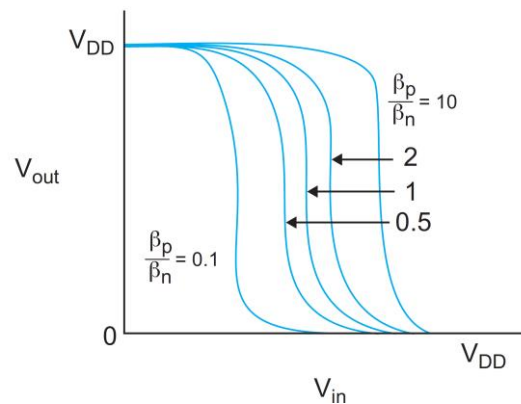

Figure 13: Transfer characteristics of skewed inverters
- ✓ The supply current $I_{DD} = I_{dsn} = |I_{dsp}|$ is plotted against V_{in} in Figure 13(d) showing that both transistors are momentarily ON as V_{in} .
- ✓ Figure 13, shows the impact of skewing the beta ratio on the DC transfer characteristics.